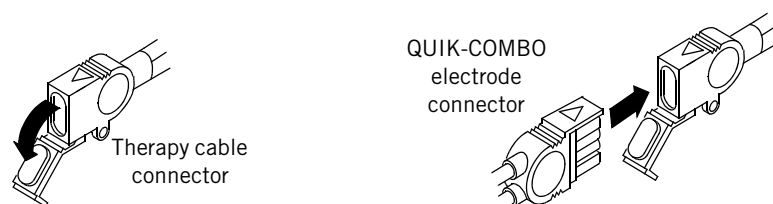

Figure 6-2 Connect QUIK-COMBO Electrodes to Therapy Cable
1. Open the protective cover on the therapy cable connector (see Figure 6-2).